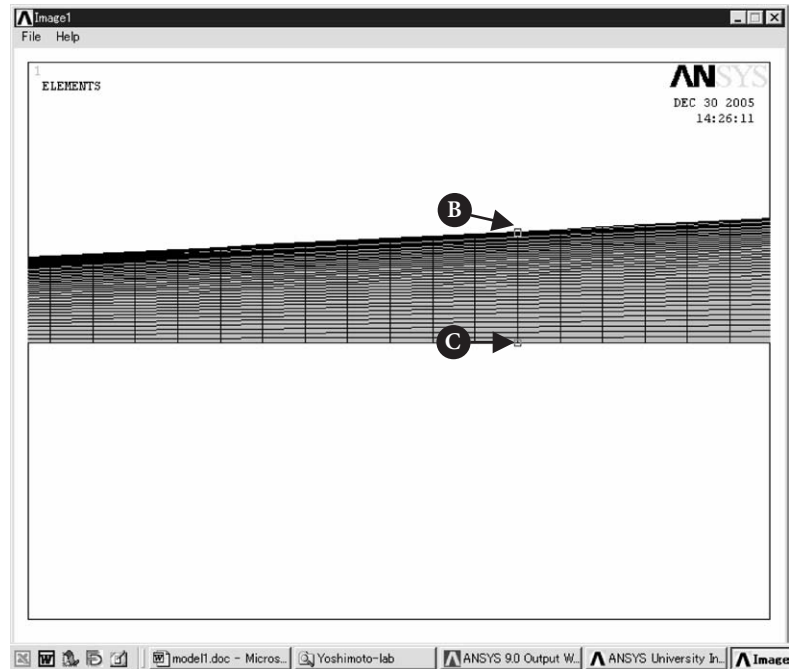

Figure 5.34 ANSYS Graphics window.
- (1) Check [A] **Pick** and pick two nodes on [B] the wall and [C] the x-axis as shown in Figure 5.34. If a wrong node on **ANSYS Graphics** window is selected, delete the picked node by using **Unpick**. Click [D] **OK** button.